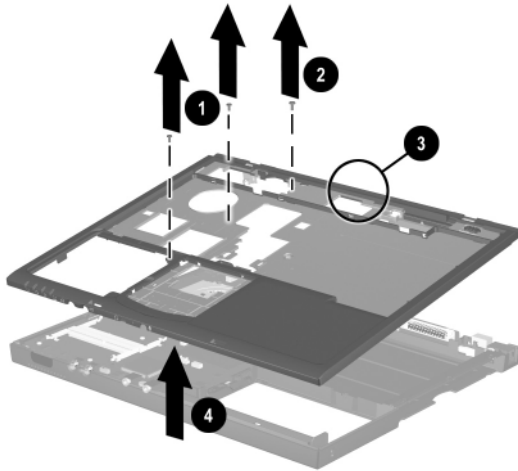

Figure 5-21. Removing the Top Cover
5. **For Evo Notebook N620c and N610c models only**—Remove the two TM2.0 × 4.0 ❶ screws that secure the top cover to the base enclosure (Figure 5-21).
6. **For all notebook models**—Remove the TM2.5 × 7.0 ❷ screw that secures the top cover to the base enclosure.
7. Insert a flat blade screwdriver into the slot ❸ on the rear edge of the top cover to disengage the cover from the I/O bracket.
8. Lift the top cover straight up and remove it from the base enclosure ❹.